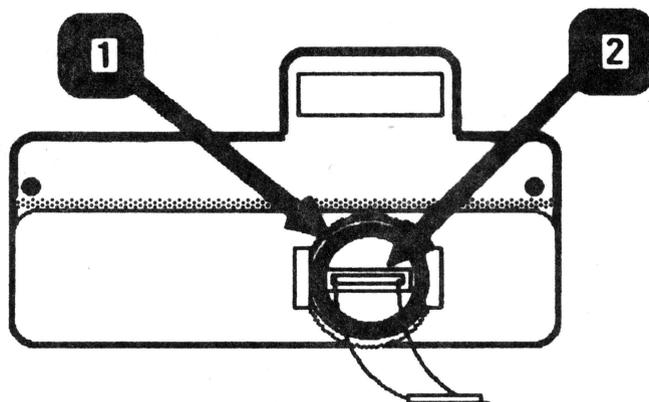

FIGURE 12
8. Slide the toroid ring (Figure 12, #1) over the connector box cable and set it aside.
9. Use a small flatblade screwdriver to pry the sides of the plastic cable brace (Figure 12, #2) until it is free from the case.